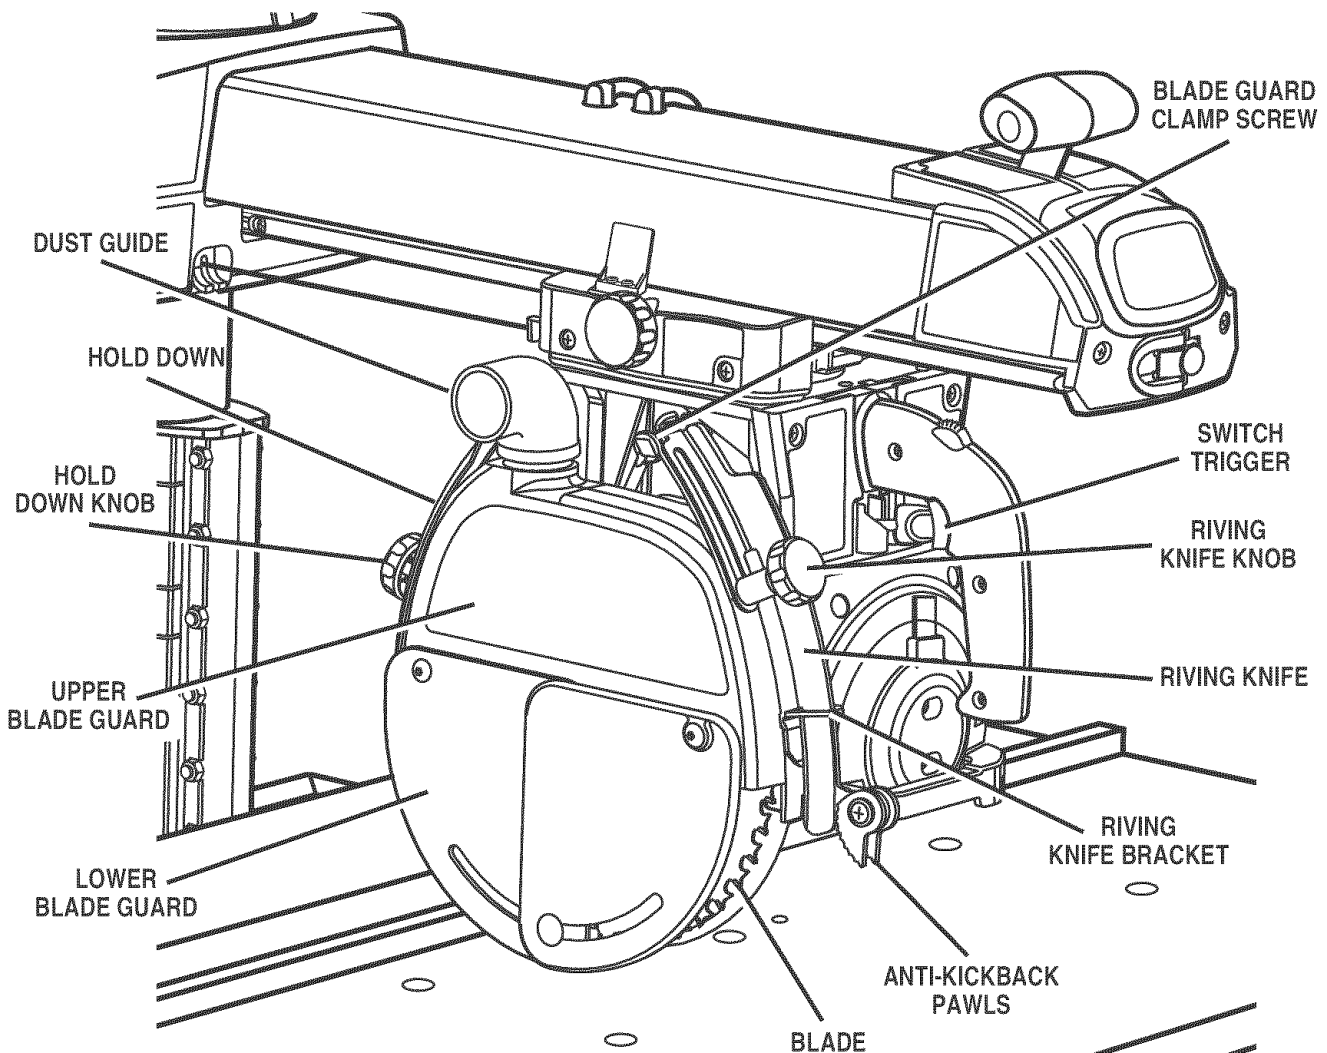

Fig. 9D
**ANTI-KICKBACK PAWLS** - Toothed pawls that snag the work in case of kickback during rip cuts. (When the blade is parallel to the arm, the pawls are in front of the blade.) Keep the pawls in place to reduce risk of injury. See Figure 9D.
**BLADE** - For maximum performance, use the Craftsman 40-tooth, 10 in. carbide-tipped blade provided with your saw. It is a high-quality combination blade suitable for ripping and crosscut operations. Blades recommended for other operations are listed in the *Accessory* section of this manual. The blade is powered by the main motor and turned off by the switch. See Figure 9D.
**BLADE GUARD CLAMP SCREW** - Secures the blade guard to the motor. Located between the blade and the motor. See Figure 9D.
**DUST GUIDE** - Directs sawdust, created from the cut being made, in the direction you set. Located at the rear of the upper blade guard. *See Figure 9D.*
**HOLD DOWN** - A metal guard to control workpiece climb during rip cuts. When blade parallels arm, hold down is over the back of the blade. *See Figure 9D.*
**HOLD DOWN KNOB** - Controls placement of the hold down and locks it in place. *See Figure 9D.*
**RIVING KNIFE OR SPREADER** - Located directly in front of the blade and beside the anti-kickback pawls, the riving knife keeps cut edges from binding during rip cuts. *See Figure 9D.*
**RIVING KNIFE BRACKET** - Allows adjustment of the riving knife. Located midway along the riving knife. *See Figure 9D.*
**RIVING KNIFE KNOB** - Adjusts the riving knife and locks both the pawls and the riving knife in place. Located toward the top and front of the blade guard. *See Figure 9D.*
**SWITCH TRIGGER** - Used to power the control cut device to allow yoke assembly to be pulled forward. Mounted in the handle. *See Figure 9D.*